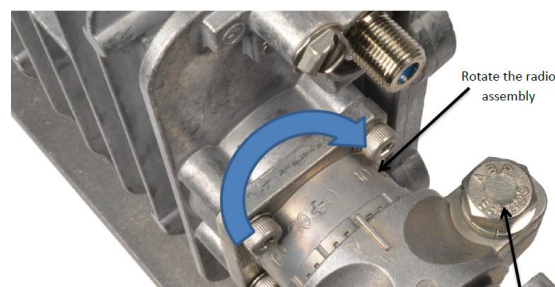

Figure 9: Rotate the Universal Radio assembly
3. Rotate the radio assembly as shown in Figure 9. Example: To set the radio polarization to +30°, rotate the radio assembly in the direction of the + sign on the waveguide spacer until the +30° mark aligns with the marker on the circular bracket.